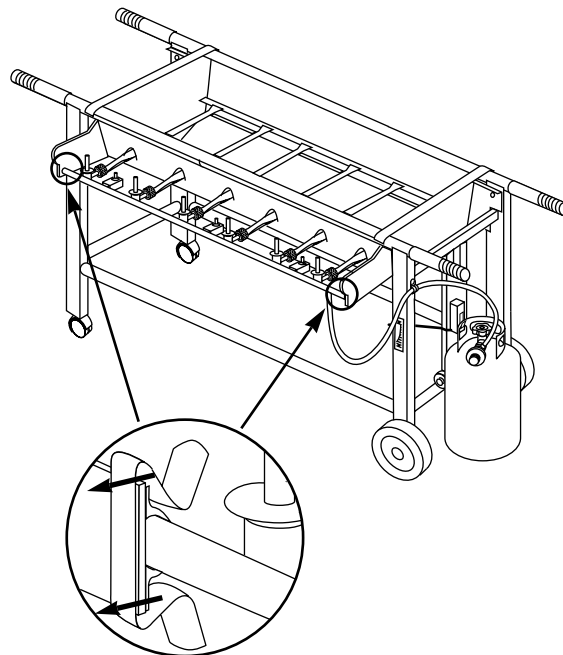

Figure 16
8. Remove the manifold by unsnapping the clips at the right and left front of the cooking box. Figure 16.